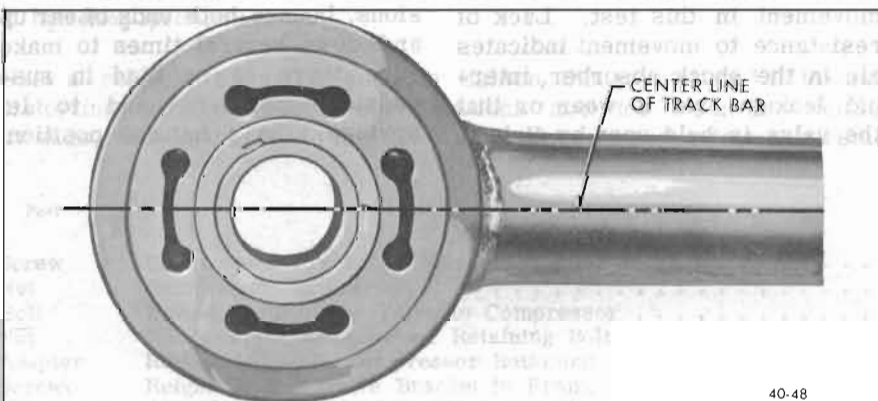

Figure 40-6—Track Bar Bushing Installed in Bar
3. Install new bushing in track bar eye by pressing on flanged side of bushing. Press in bushing until flange is in contact with eye of track bar. See Figure 40-6.